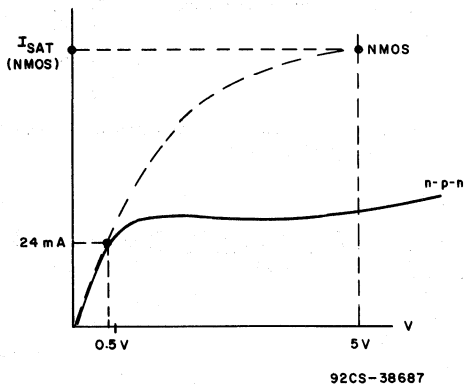

Fig. 7 - Comparison of I_{sat} in an n-p-n transistor and an NMOS transistor.
2. A CMOS output sink current of 24 milliamperes at 0.5 volt will give rise to an objectionably high transient current when switching, and will produce EMI which is objectionably large, much larger than the LSTTL output with the same current/voltage level. Fig. 7 shows the much higher I_{sat} in an NMOS output sink transistor versus an n-p-n output sink transistor. I_{sat} is twice as large, as are dv/dt and EMI, in CMOS as in LSTTL devices.